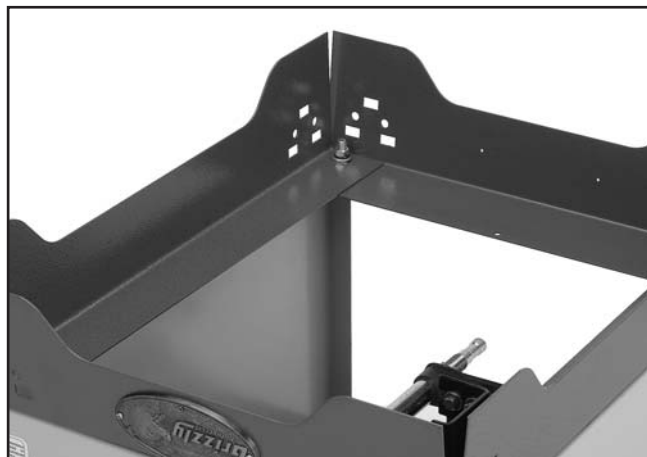

Figure 7. Stand attachment locations.
2. Place the L side supports on the saw body with the cast logo at the front and secure with 4 hex bolts, 8 flat washers, 4 lock washers, and 4 hex nuts as shown in **Figure 7**.